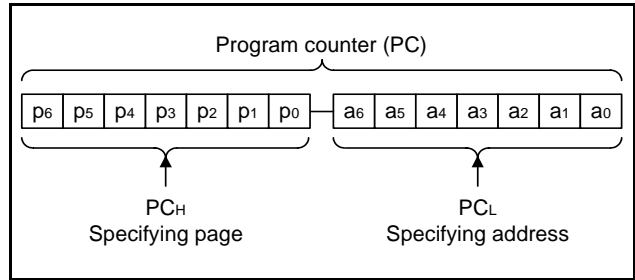

Fig 18. Program counter (PC) structure
**(8) Program counter (PC)**
Program counter (PC) is used to specify a ROM address (page and address). It determines a sequence in which instructions stored in ROM are read. It is a binary counter that increments the number of instruction bytes each time an instruction is executed. However, the value changes to a specified address when branch instructions, subroutine call instructions, return instructions, or the table reference instruction (TABP p) is executed. Program counter consists of PCH (most significant bit to bit 7) which specifies to a ROM page and PCL (bits 6 to 0) which specifies an address within a page. After it reaches the last address (address 127) of a page, it specifies address 0 of the next page (Figure 18). Make sure that the PCH does not specify after the last page of the built-in ROM.